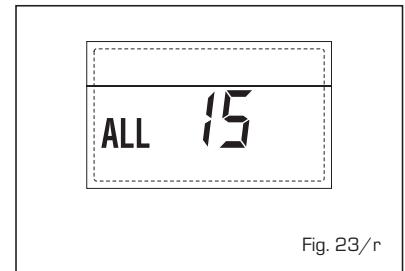

Fig. 23/r
- SAFETY THERMOSTAT INTERVENTION FIRST MIXED ZONE "ALL 20" (fig. 23/p)